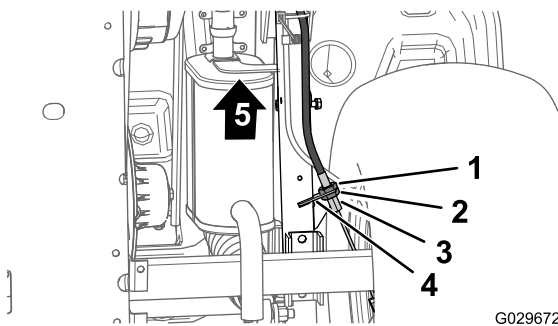

Figure 54
3. At the bottom of the machine, loosen the rear-jam nut for the threaded adjuster of the parking-brake cable 4 turns (Figure 54).
4. Tighten the forward jam nut (Figure 54).
- A. Loosen the forward-jam nut (Figure 54) for the threaded adjuster of the parking-brake cable 1 turn.
- B. Tighten the rear jam nut (Figure 54).
- A. Loosen the rear-jam nut (Figure 54) for the threaded adjuster of the parking-brake cable 1 turn.
- B. Tighten the forward jam nut (Figure 54).